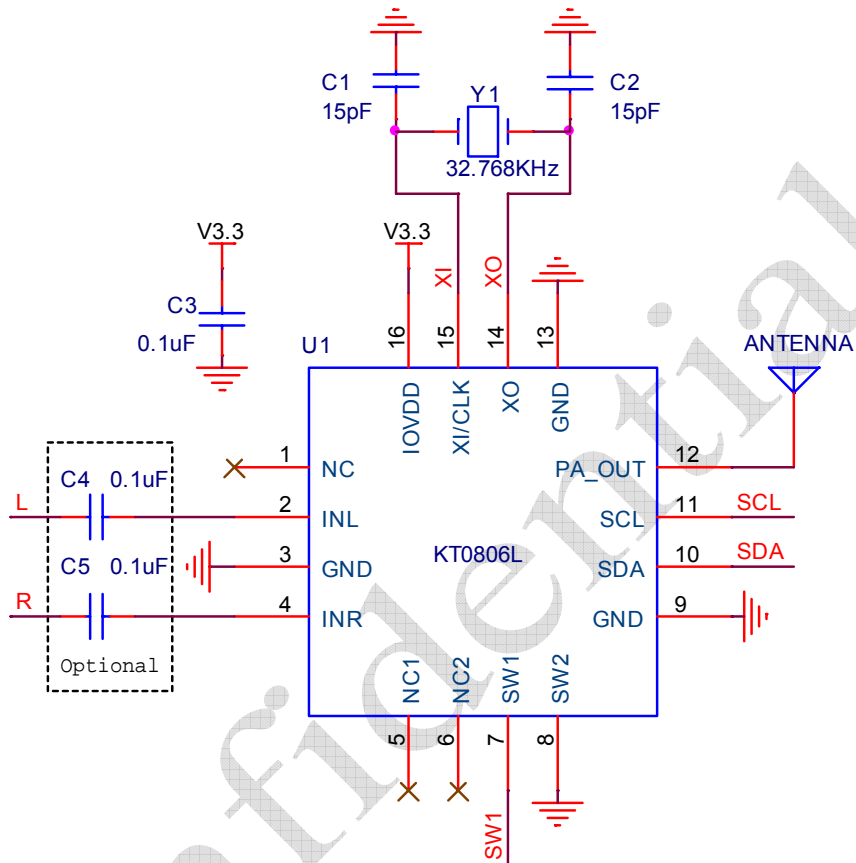

Figure 10: Typical configuration for a drop-in replacement of KT0806
The KT0806L can be integrated in a wide range of systems by requiring only a single power supply. Figure 10 shows the external diagram for the drop-in replacement of KT0806.
- V1.2 Modified Table 3, Figure 2, Figure 10, Figure 11 and section 8.